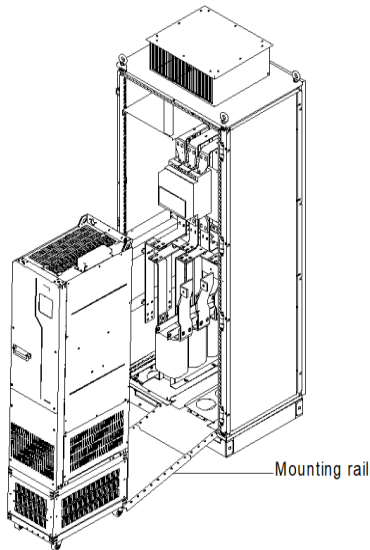
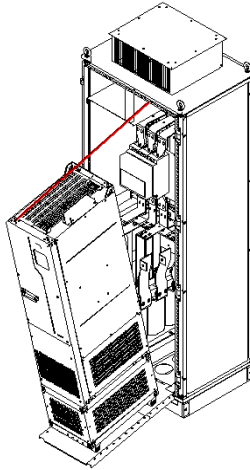

Figure 4-15 Aligning the VFD casters with the mounting rail
Figure 4-16 Pushing the VFD into the cabinet slowly
- ✧ The VFD can be pushed into or out of the cabinet only after the casters are aligned with the rail. To ensure safety, arrange two people to push the VFD into or out of the cabinet. See Figure 4-15 and Figure 4-16.
| 4   | Arrange two people to align the VFD casters with the mounting rail and push the VFD to the cabinet. (See Figure 4-15 and Figure 4-16. Use the auxiliary rope for mounting to prevent the VFD from side tipping during the push-in or push-out.) |